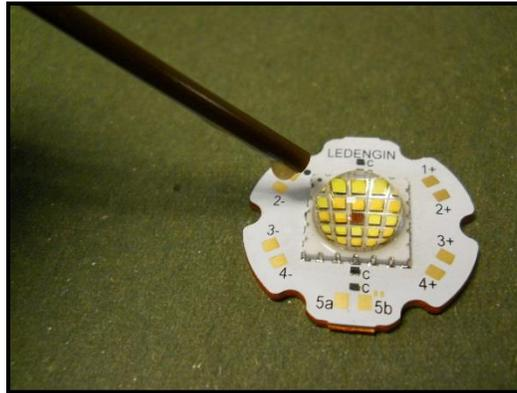

Fig. 8: Dispensing flux onto MCPCB solder pad
- b. Apply a small amount of flux onto the solder pads of the MCPCB (Fig. 8). Flux should be applied only to the solder pads and should not touch other parts of the MCPCB or emitter, especially the light emitting region.